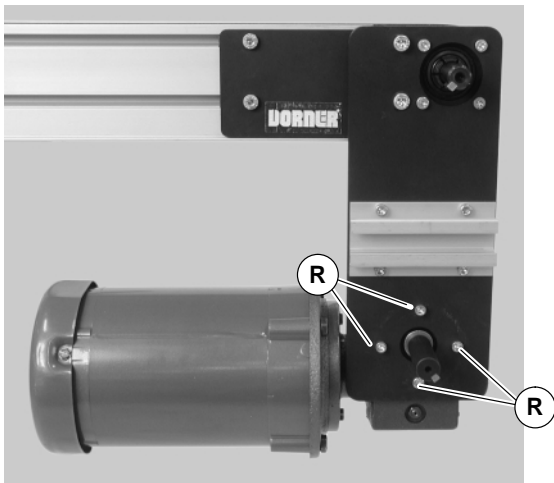

Figure 5
2. If required, change gearmotor position by removing four (4) screws (R of Figure 5). Rotate gearmotor to other position and replace screws (R). Tighten to 110 in-lb (12 Nm).